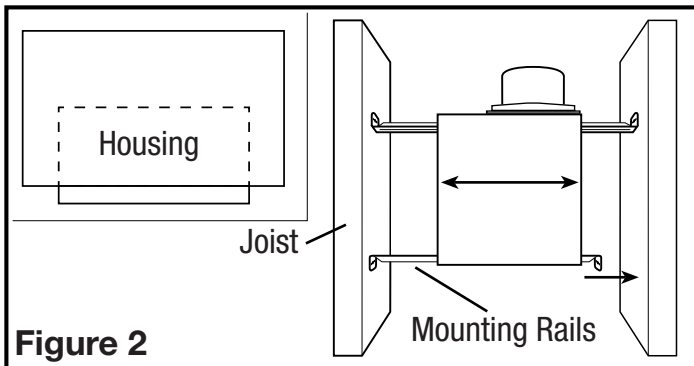
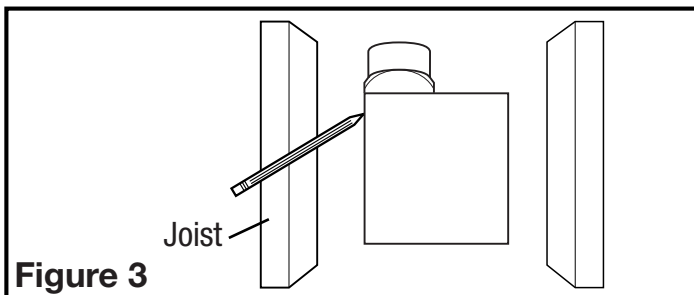

Figure 2
Figure 3
- Install the rails into the mounting channel on the housing. Center the mounting channel in the slots on the housing, then from inside the housing tighten the mounting channel screws so the channel is securely in place. Position the housing next to the joist. Line up housing so that it will be flush with the finished ceiling. Secure the ends of the rails with screws or nails (not included) to the joists and slide the housing into the final position (**Figure 2**).
- Set housing in position between the joist and trace an outline onto the ceiling material (**Figure 3**). Set housing aside and cut opening, being careful not to cut or damage any electrical or other hidden utilities. Install the rails into the mounting channel on the housing. Center the mounting channel in the slots on the housing, then from inside the housing tighten the mounting channel screws so the channel is securely in place. Position the housing in the previously cut hole so that it is flush with the finished ceiling. Secure the ends of the rails to the joists (**Figure 2**).